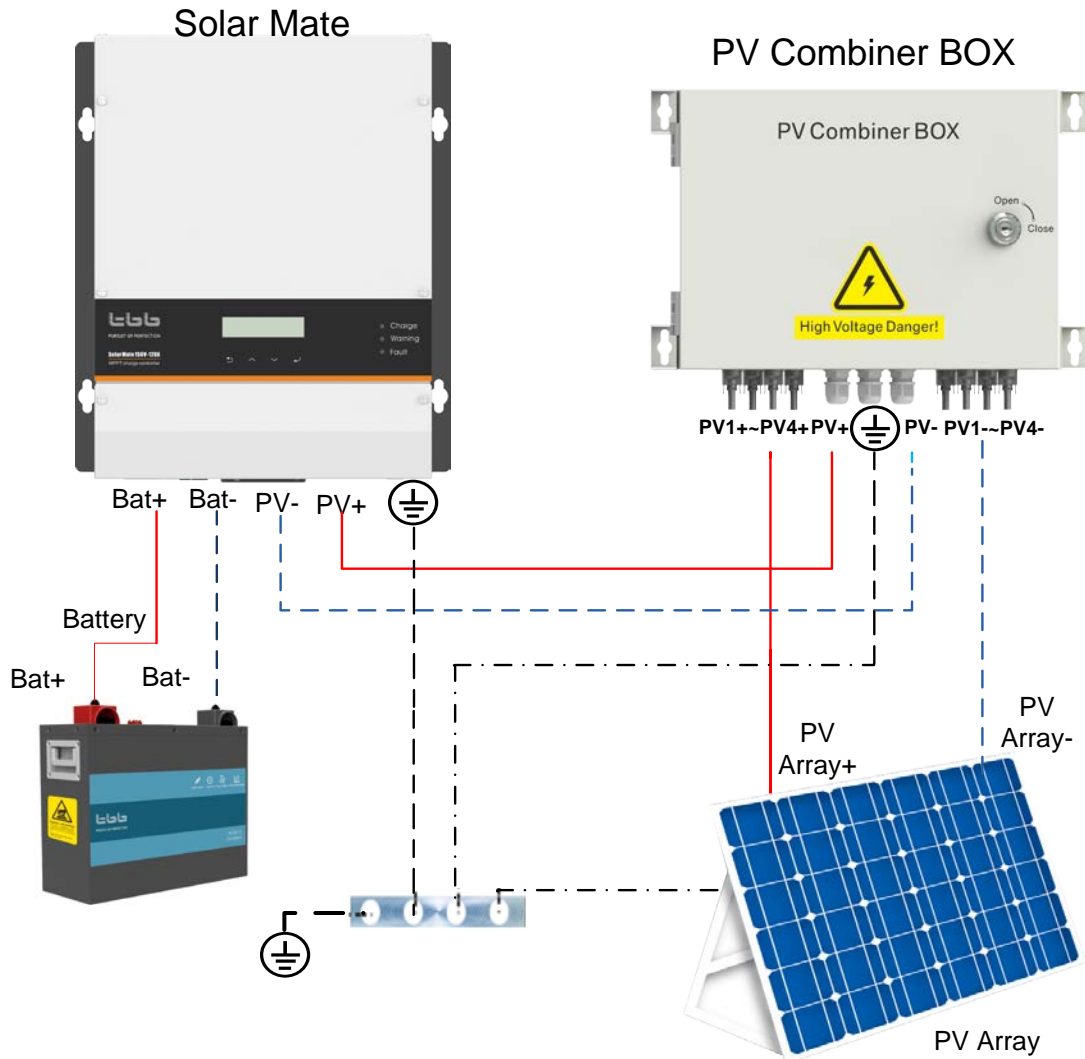

Figure 3-6 Wiring diagram of Solar Mate
- Please connect the SP grounding terminal to the system grounding bar, refer to Figure 3-6 of chapter 3.5.1.
- Please connect the frame of PV to the system grounding bar, refer to Figure 3-6 of chapter 3.5.1
- Please connect the battery frame to the system grounding bar, refer to Figure 3-6 of chapter 3.5.1.